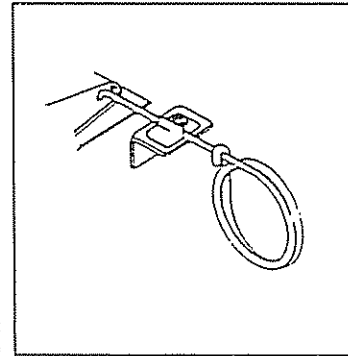

FIG. 8
- Apply the choke (Fig. 8). Pull choke lever to its FULL CHOKE POSITION. If engine is warm, close the choke only part way or leave it fully open. A warm engine needs less choking than a cold engine.